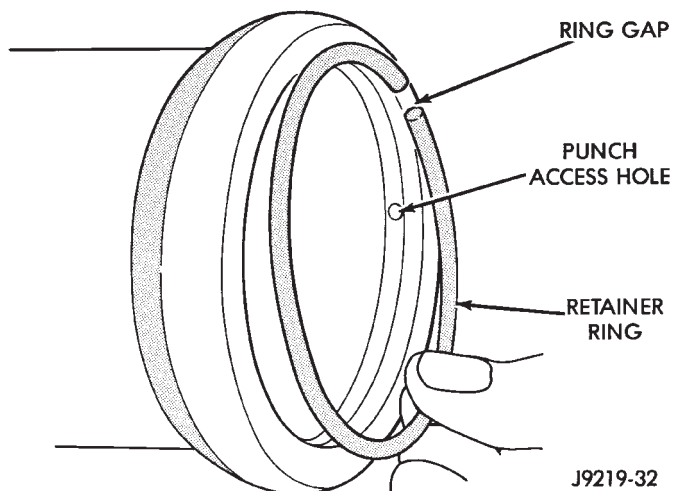

Fig. 17 Installing The Retaining Ring
- (1) Install O-ring into housing.
- (2) Install plug, tap lightly with a plastic mallet to seat it.
- (3) Install retaining ring with open end 25 mm (1 inch) from access hole (Fig. 17).